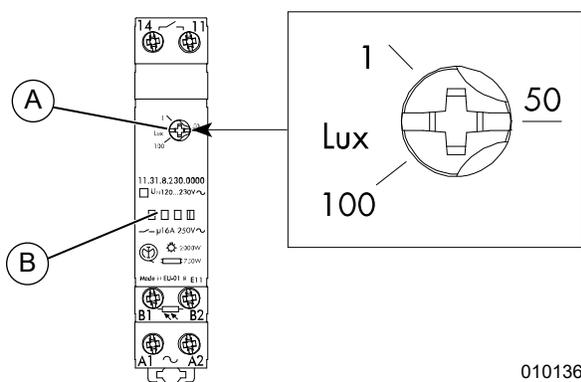

Figure 2-5. Lighting Sensor Intensity Setting
See **Figure 2-5**. To set the lux threshold, use a screw driver to turn Lux level setting (A) to the desired value.